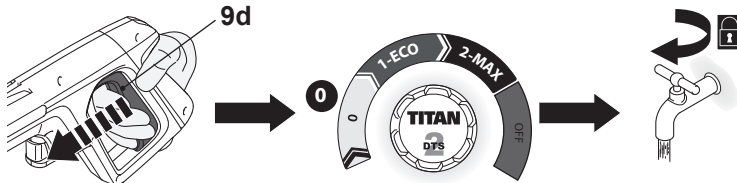

Fig. 24
1. Release the trigger (9d) (Fig. 24).